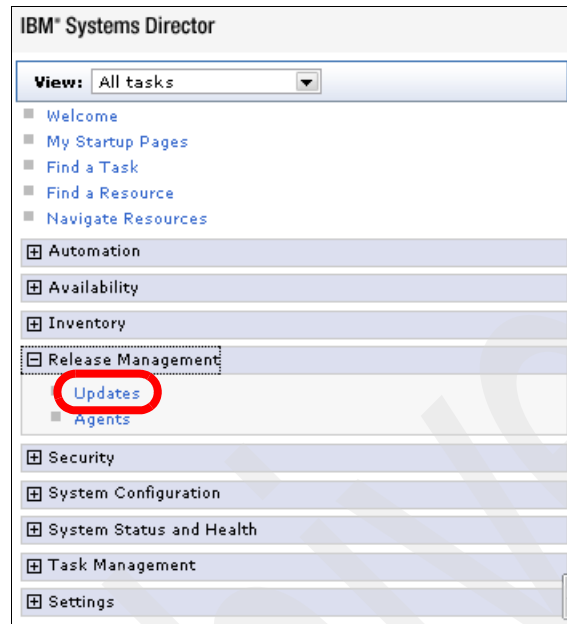

Figure 3-12 Release Management menu
6. Now, you can import the update. In the IBM Systems Director Web Interface, click **Release Management** → **Updates** as shown in Figure 3-12.